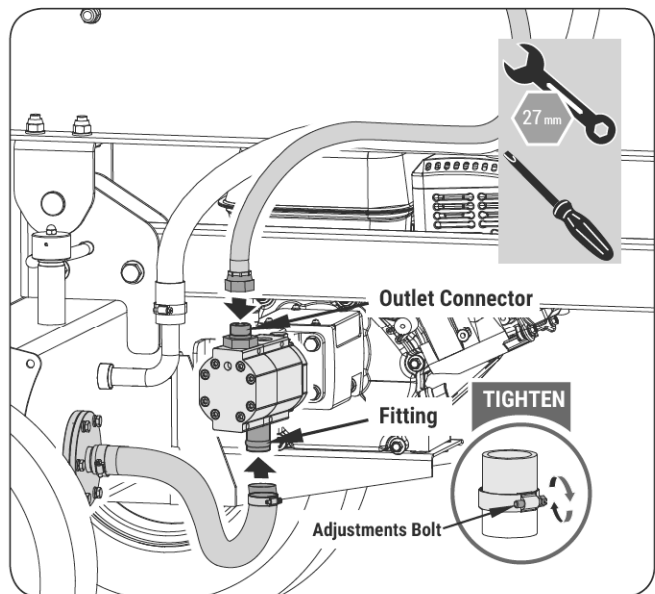

Figure 9d
5. Suction Hose coming from the bottom of reservoir, Loosen the hose clamp on the end of this hose, then connect the hose to the fitting on the bottom of the pump. Tighten the hose clamp. (See **Figure 9d.**)